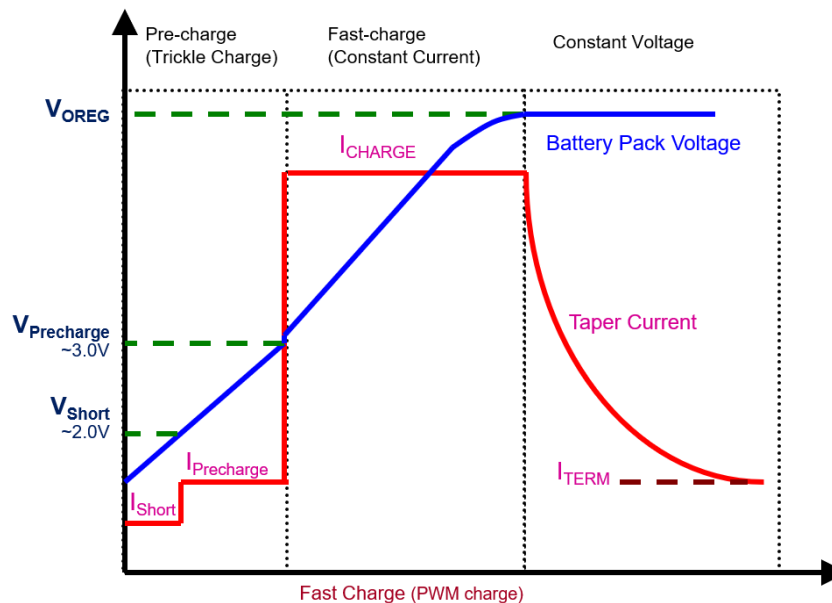

Figure 2-2. Battery Charge Pattern
The Figure 2-2 shows a battery charge pattern for a normal one cell battery. For a charging condition, it can be simplified into a constant current (CC) window and then a constant voltage (CV) window. At the end of charge, if the charge voltage is constant, the current is reduced in an exponential order. If the current turns to 0, the NomFullCap is obtained. However, to avoid waiting for a long time, actually a terminating charge current is set, like 1/20 capacity (1/20C), which causes a little reduction on CusFullCap, compared with NomFullCap.
For real applications, the wanted SOC by customer is not NomAbsSoc, because the current cannot be controlled at 0 when the battery full and battery empty state is reached, see in Figure 2-2.